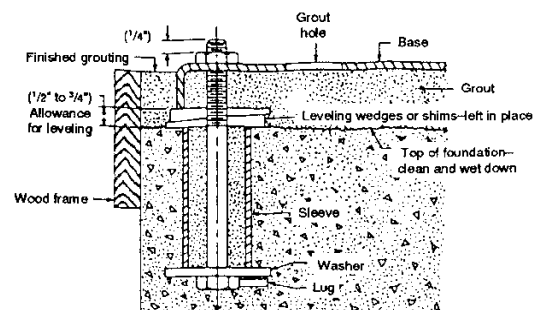

Figure 1
- 2.3.1. Bedplate must be grouted to a foundation with solid footing. Refer to Fig. 1.